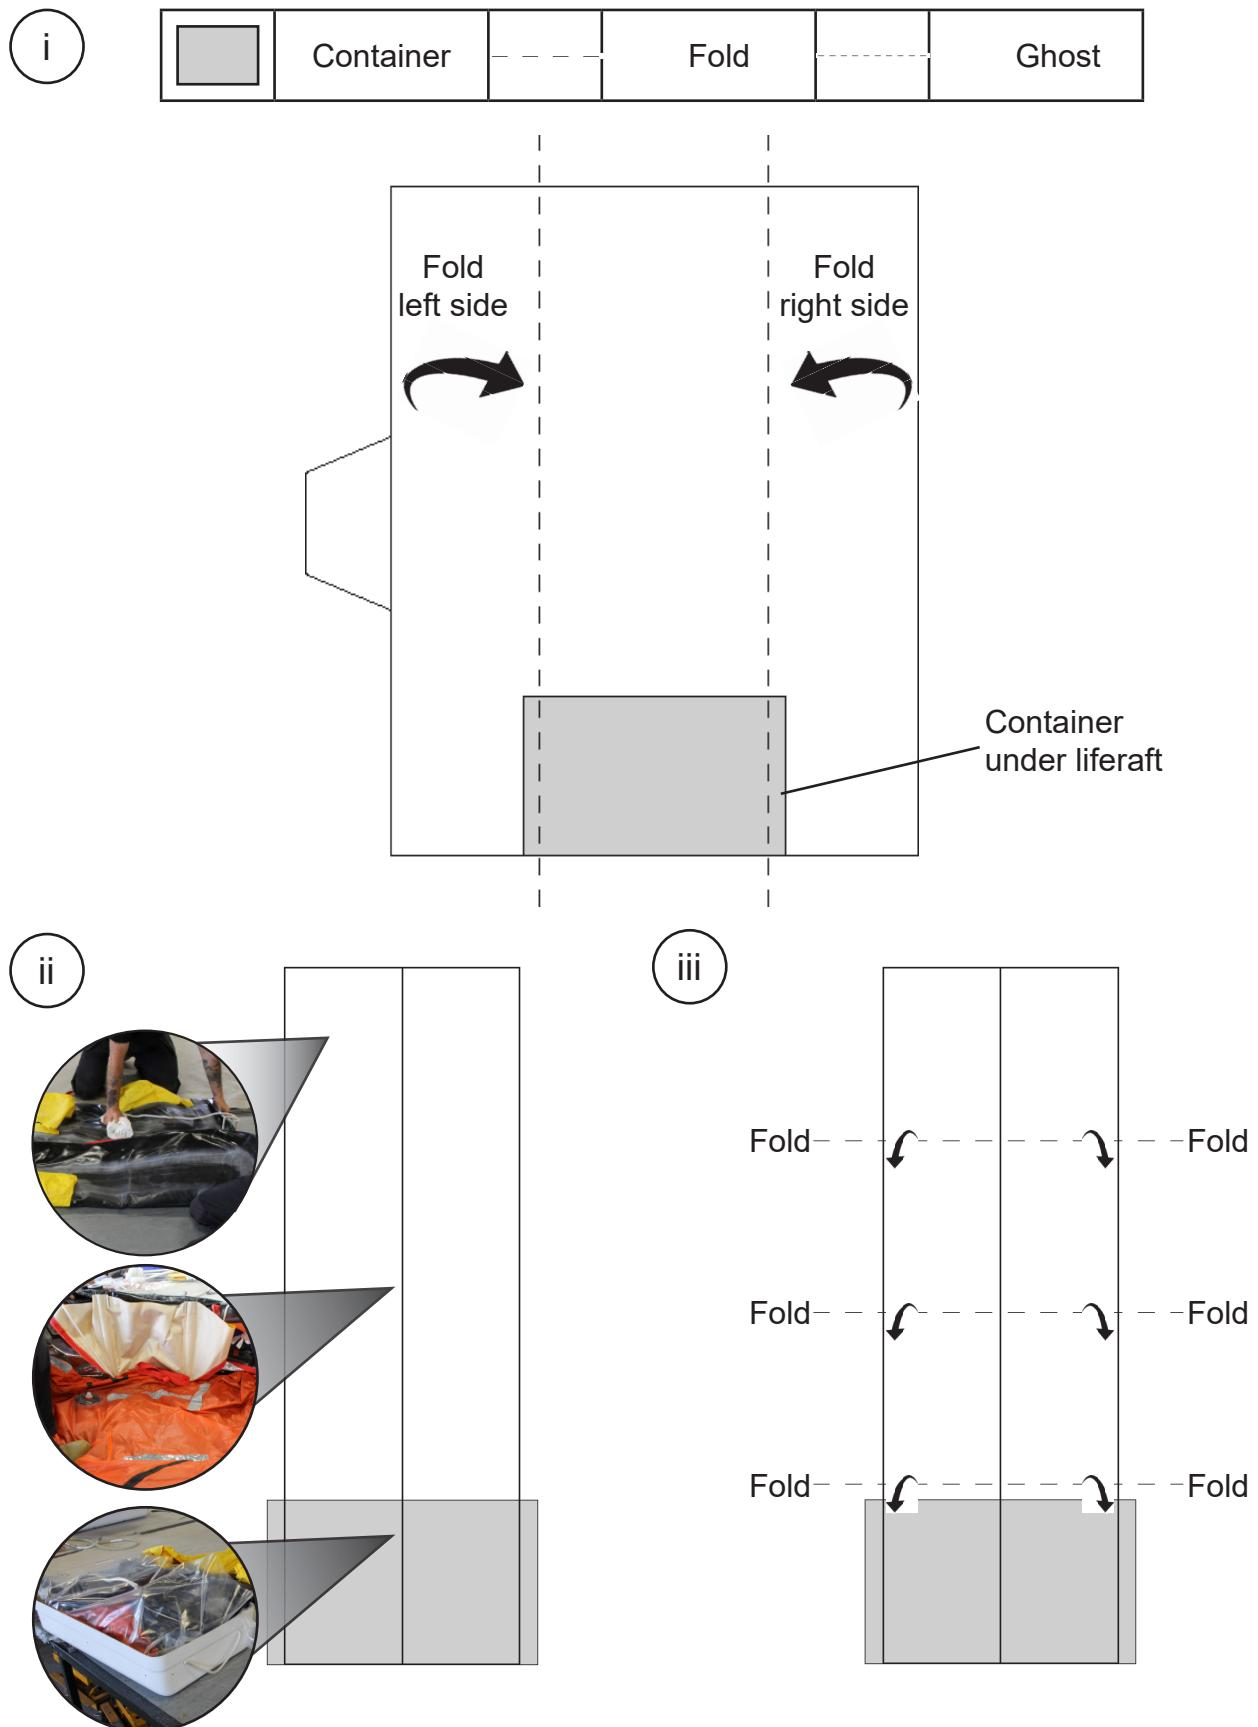

FIGURE 882
Refer to **Figure 882**.
Refer to **Figure 882 (i)**.
Refer to **Figure 882 (ii)**.
- (g) Use three full folds to fold the liferaft into the container. Make sure each fold is as tight as possible. Refer to **Figure 882 (iii)**.